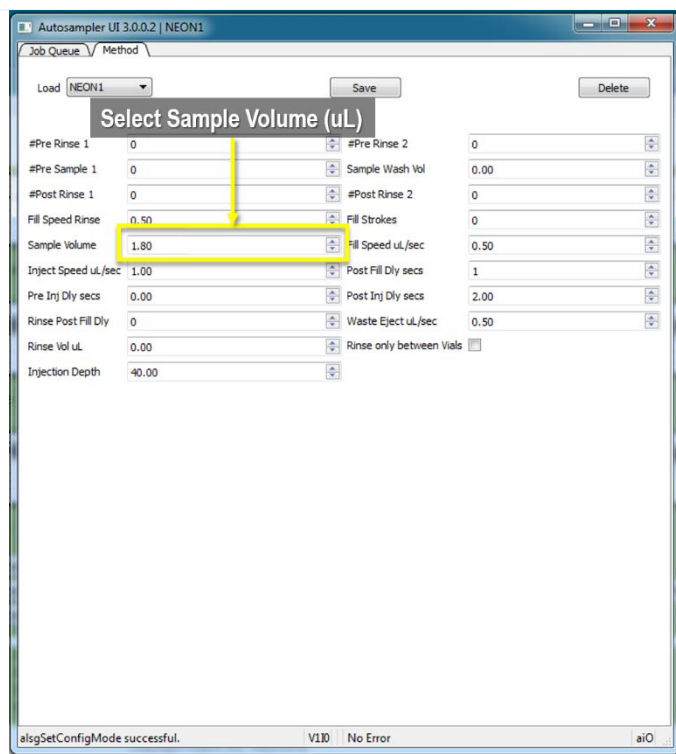

Figure 174. Adjust Sample Volume Field.
STEP 15 | Adjust the **Sample Volume (uL)** (**Figure 174**). Use the arrows to toggle the number up and down to adjust sample volume.